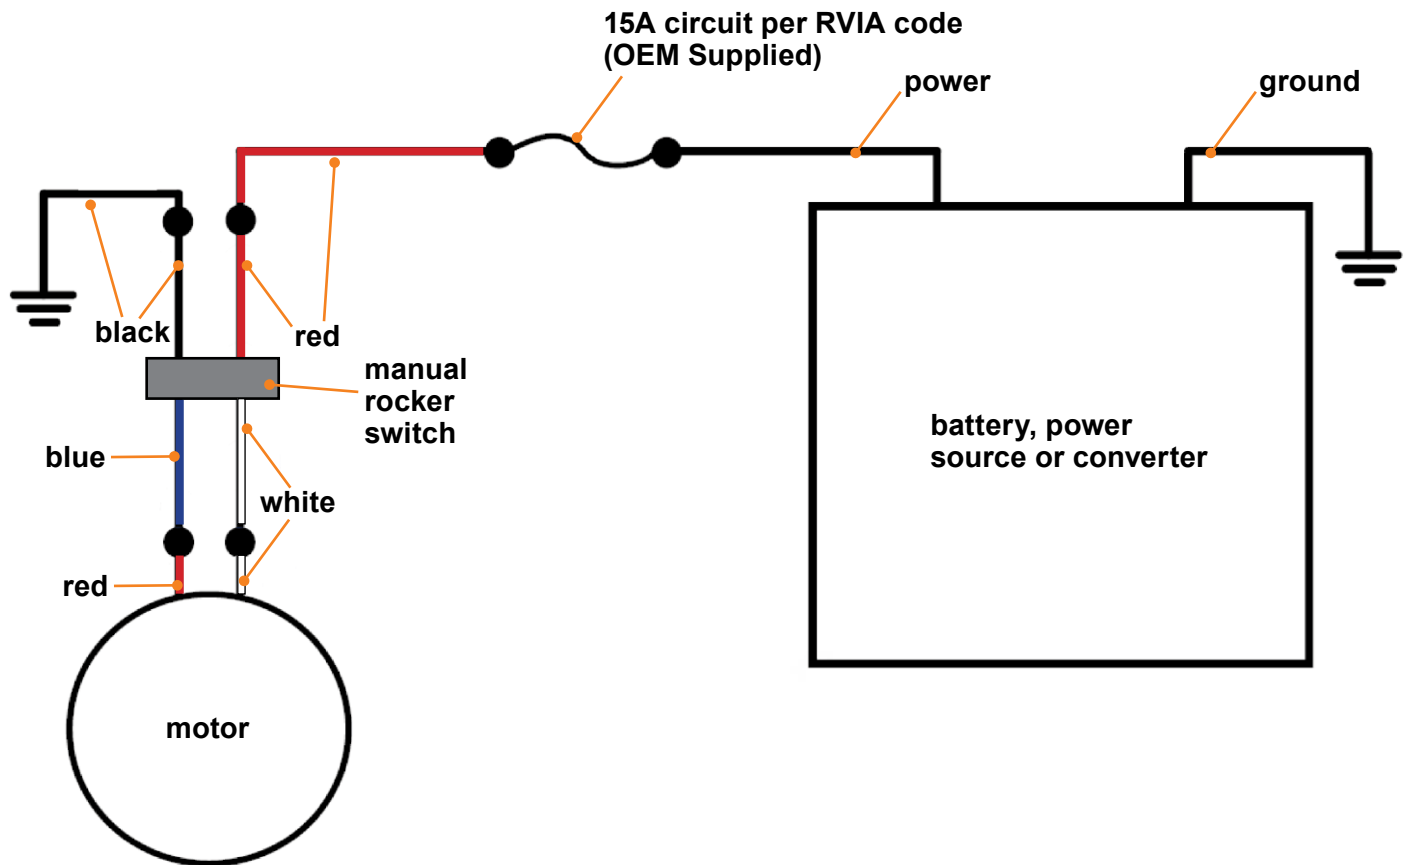

Fig.9
2. Connect wiring from the unit to the switch and the awning drive head per the wiring diagram below (Fig.9).